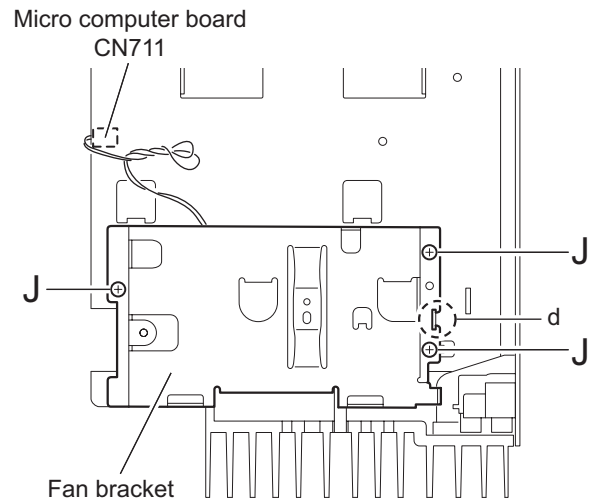

Fig.16
2.1.6 Removing the fan (See Fig.16,17)